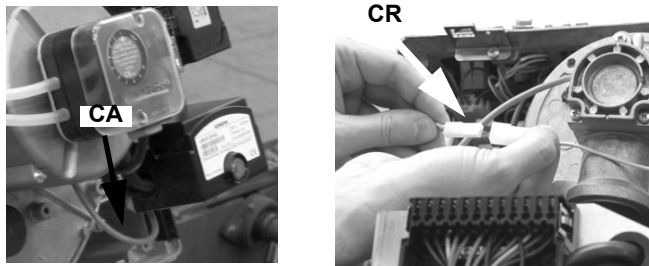

Fig. 14
- 4 Disconnect the connector **CR** from the printed circuit (Fig. 14).